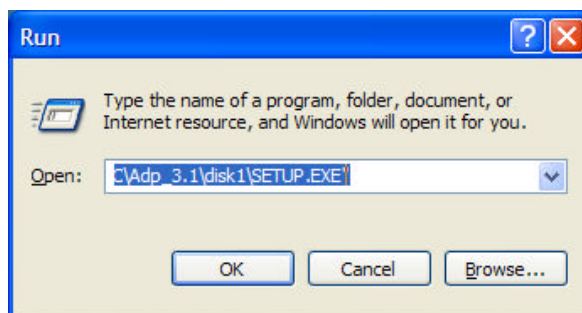

Fig 1-1 Run the installation program (Setup.exe) in Windows
2. If CD is used for ADP installation, select the “Run” option in the windows Start Menu. Click “Browse” and locate “ADP \disk1\Setup.exe” in the CD-Rom drive. Run the installation program (Setup.exe) See Fig 1-1.